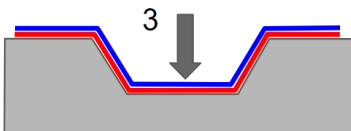

Fig.5
- 5) Once the film comes into contact with the surface, press firmly using a plastic squeegee or the finger when appropriate. This point is essential to expel the trapped air under the material. If needed, puncture any air bubbles that appear. *Fig.5*